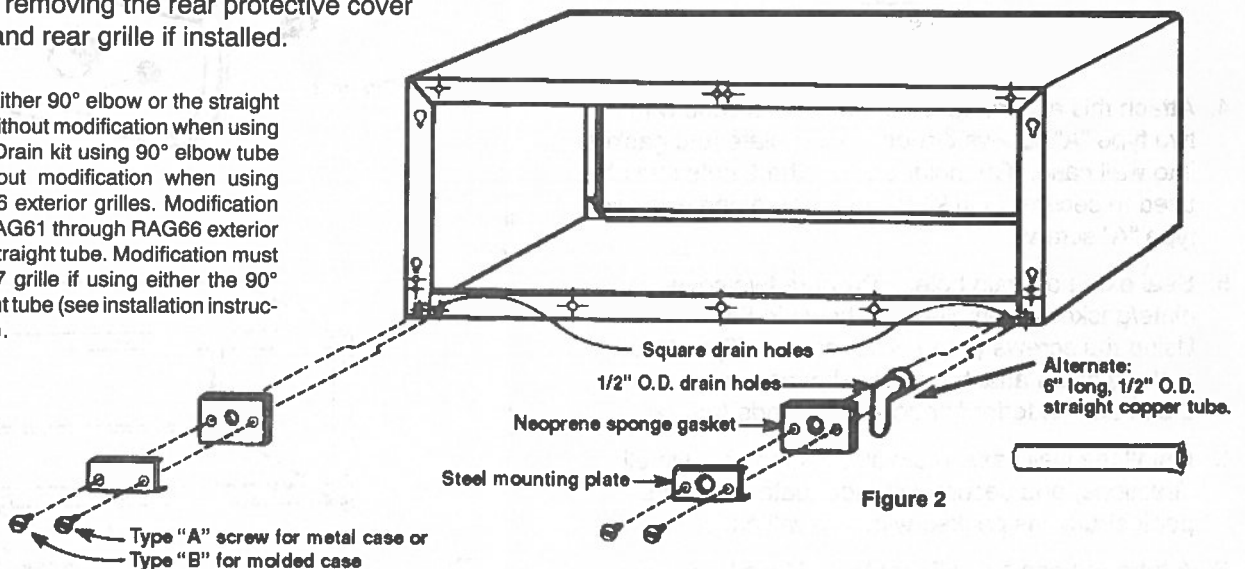

Figure 2
2. This assembly may now be installed into either the left or right overflow hole on the rear flange of the case, using two (2) of the screws (Type "A" for Metal cabinet or Type "B" for Molded) included (Fig. 2). The case should project at least 1/4" past outside finished wall.
3. The gasket should be properly placed on the rear of the seal cover plate and the assembly installed over the hole in the case not used to drain, using two (2) of the screws included (type "A" or "B" depending on type of cabinet). See Fig. 2.
3. The gasket should be placed on the cover plate (with 1/2" hole) with screw holes in gasket lined up with screw holes in cover plate. Then insert drain tube through gasket and cover plate, as shown (Fig. 2).